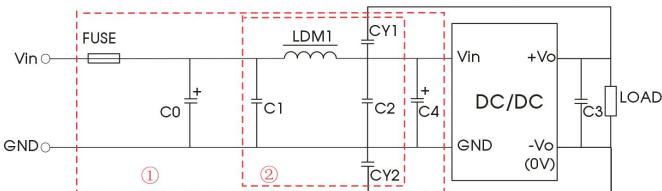

Fig. 3
RE	CISPR32/EN55032 CLASS A (without external components)/ CLASS B (see Fig.3-② for recommended circuit)
Note: Part ① in the Fig. 3 is used for EMC test and part ② for emissions filtering;